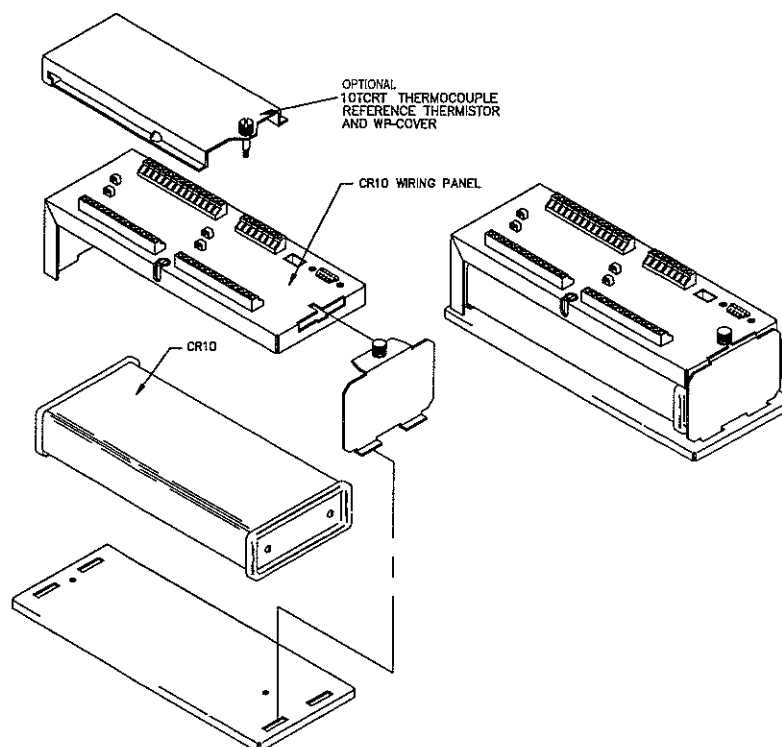
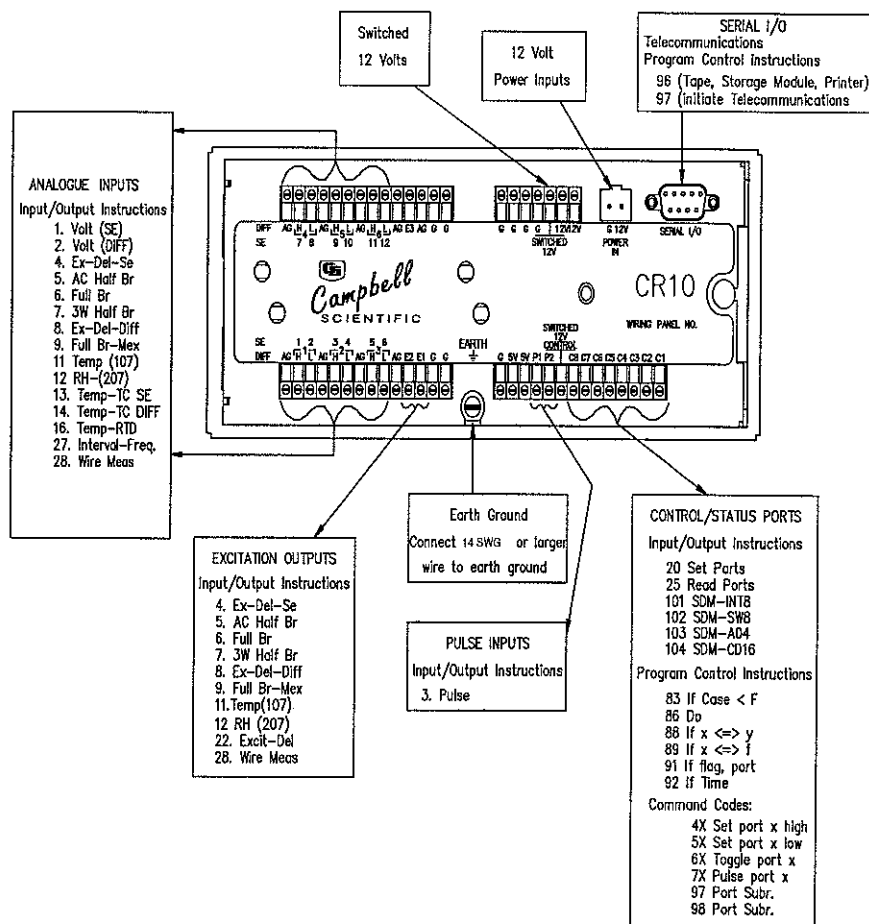

Figure OV-1 CR10 and Wiring Panel
Figure OV-2 CR10 Wiring Panel/Instruction Access
- The CR10 does not have an integral terminal strip. A removable wiring panel, the CR10WP (see Figure OV-1), performs this function and attaches to the two D-type connectors located at the end of the module.
The Wiring Panel has a 9-pin serial I/O port used when communicating with the datalogger and provides terminals for connecting sensor, control and power leads to the CR10. It also provides transient protection and reverse polarity protection. Figure OV-1 shows the panel and Figure OV-2 shows the instructions used to access the various terminals.
1. **INPUT/OUTPUT INSTRUCTIONS** control the terminal strip inputs and outputs (the sensor is the source — see Figure OV-2), storing the results in Input Storage (destination). Multiplier and offset parameters allow conversion of linear signals into engineering units. The digital I/O ports are also addressed with I/O Instructions. (See description of Instructions 1-28 and 101-104 in Section 9.)